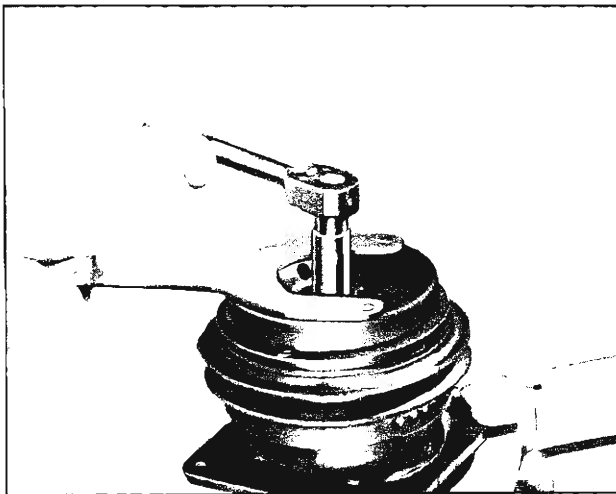

Fig. 24—Removing Shaft Locknut
2. Using drive plate holding Tool J-9403 and socket J-9399, remove the locknut from the shaft (fig. 24). Discard locknut.